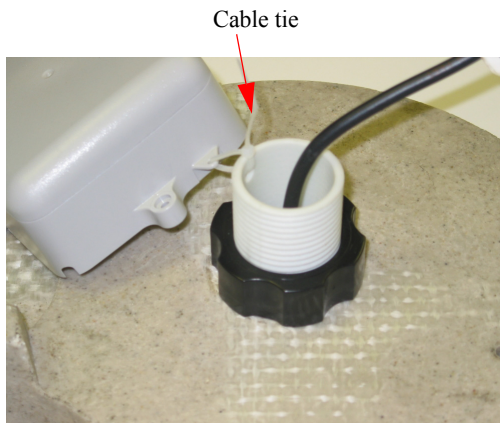

Figure 44 Attaching MIU to Antenna Shaft
- In deep pit applications, use a cable tie to suspend the MIU from the antenna shaft, as shown in Figure 44.